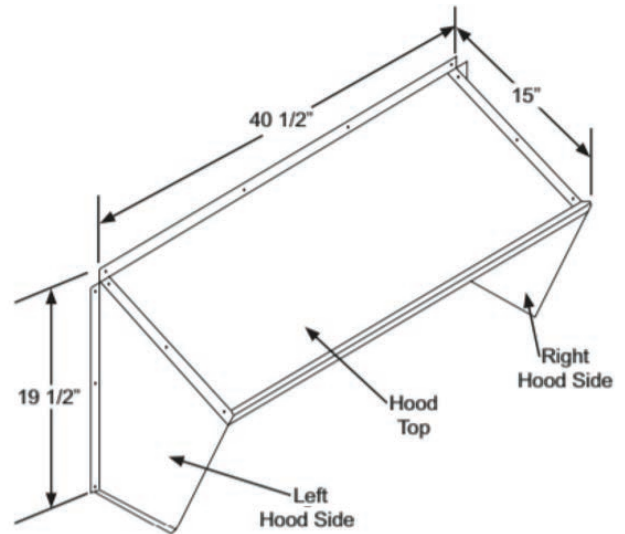

Fig. 32 — CRBARHOD001A00 Hood Sides and Top
5. Using the provided hardware, screw the CRBARHOD001A00 hood sides and top together (see Fig. 32).